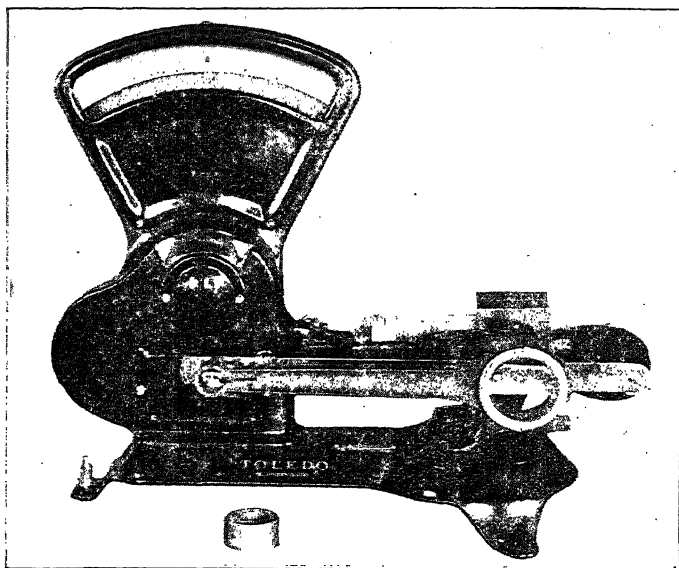

Fig. 18. Factory Set-Up for Balancing Connecting Rods
**Balancing Connecting Rods.** Fig. 18 illustrates a factory set-up for balancing connecting rods. All reciprocating parts and rotating parts should be accurately balanced against each other. For instance, the difference of one ounce in the weights of the several